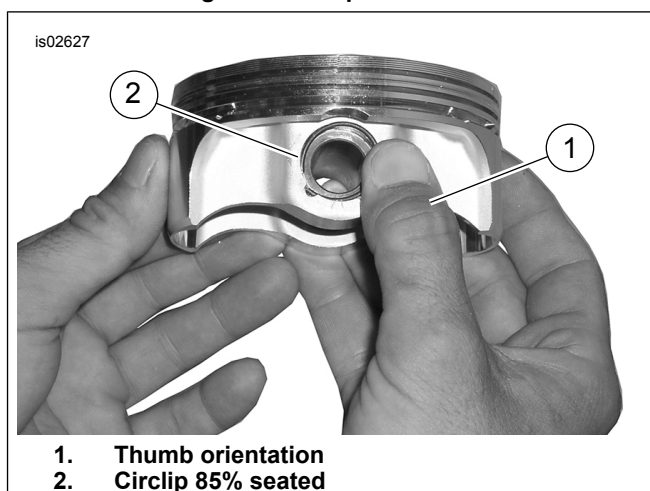

Figure 2. Install Circlip
2. See Figure 2. Position your thumb (1) as shown, and press firmly until approximately 85% of the circlip (2) is seated in the groove.